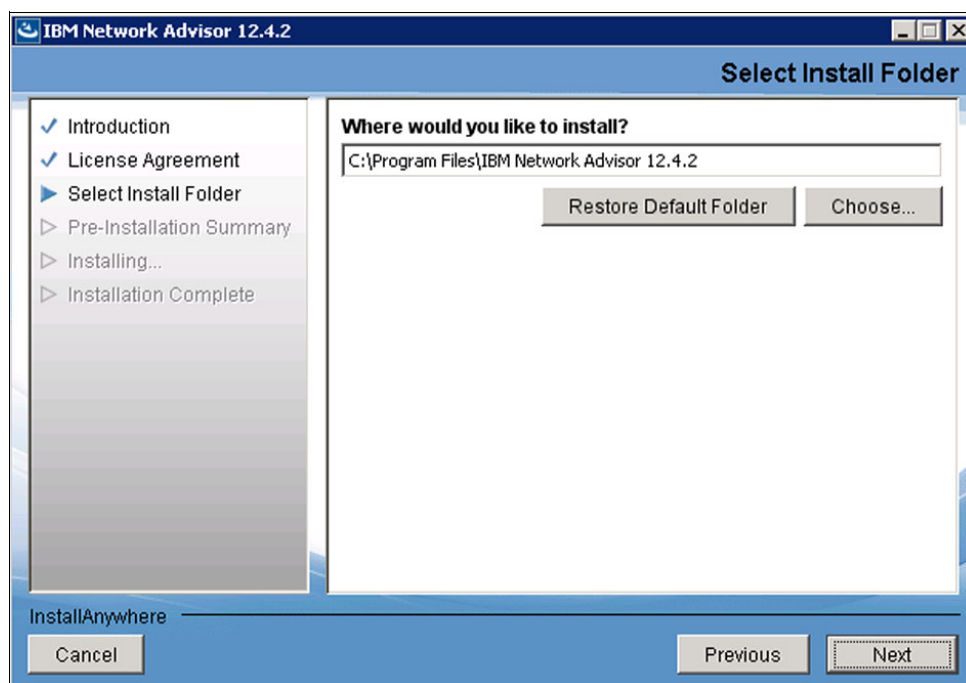

Figure 4-4 Installation folder options
3. A window with the license agreement opens. Accept the IBM Network Advisor license to proceed. After you accept the license agreement, you are prompted for the installation location. *Do not* install to the root directory (C:\Windows or / (UNIX). Figure 4-4 shows the options to select the installation location.